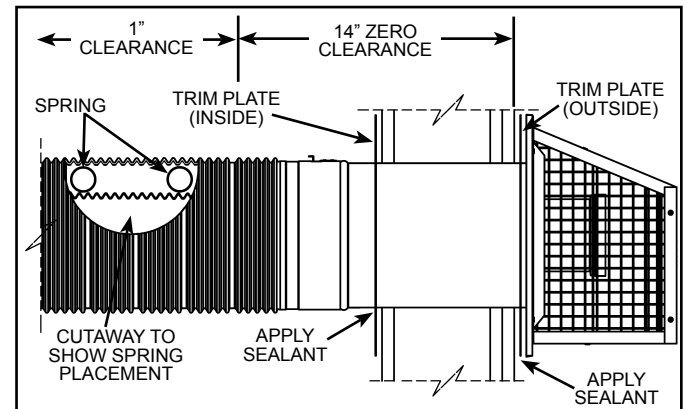

Figure 21
Cut a clearance hole, approximately 7" in diameter, through the exterior wall for the vent assembly. The recommended height is 64" for 40 gal. models, 73" for 50 gal. models and 74" for 50 gal. Hi-Input models, as measured from the hole center to bottom of water heater. Where the wall is combustible and the wall thickness is over 14", 1" clearance to combustible surfaces around the vent terminal is needed. The first 14" is zero clearance (see Figure 21).
Maintain vent clearances to combustibles as shown in Figure 21.
Some models are supplied with trim plates which may be used to cover the holes in the wall (see Figure 1 and Figure 21). Slide one trim plate (if supplied) over the outer corrugated tube, then insert the outer corrugated tube through the clearance hole from exterior wall. Secure the trim plate to the exterior wall, then secure the vent terminal to the exterior wall with 4 screw anchors (included) appropriate for the type of wall construction. Caulk the
3. Minimum vent pipe clearance to combustibles is 1" (see Figure 21).